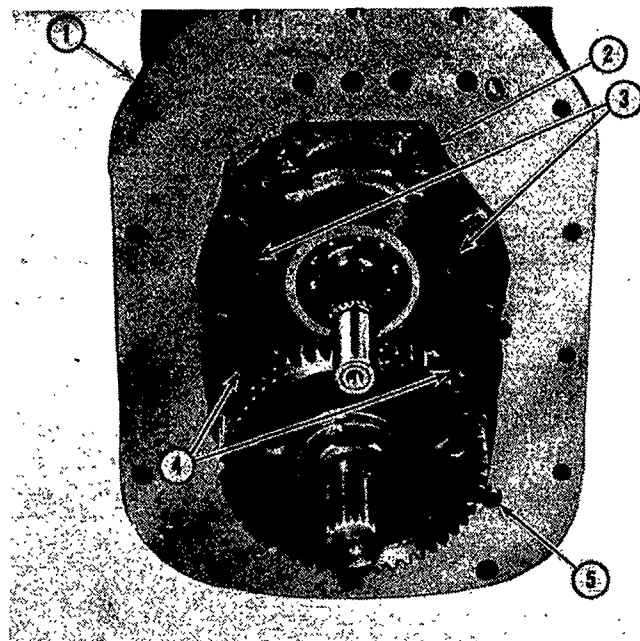

Figure 2
- The rear bearing retainer, Figure 2, has four holes provided to allow oil to pass easily between the transmission case and the rear axle center housing, thus making for a common reservoir.